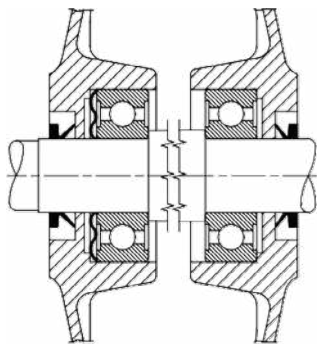
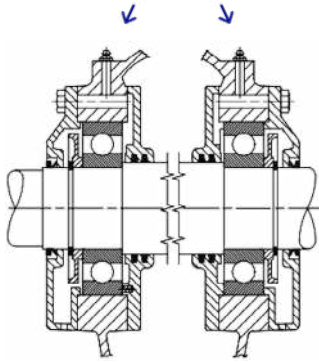

Figure 1
Figure 4
GAMAK electric motors come standard with a single row deep groove ball bearing design. The radial and axial forces that the standard design bearings in the bearing arrangement shown in Figures 1, 2, 3, 4, 5, 6 on the following page can withstand are given in the charts on the following page. For engines of size 132 and above, if the radial force applied to the motor shaft end exceeds the values given on page 22, a cylindrical roller bearing design with a higher radial force carrying capacity should be selected (Figure 5, Page 23).
- The axial clearance of deep groove ball bearing housings is limited by a pre-tensioned spring (bearing thrust spring - Fig. 1, 2, 3) or coil springs (Fig. 4). This minimizes bearing vibrations and noise and increases bearing life.
- 63...132 motors (Table 1) and 160...280 motors (Tables 2 and 3) use deep groove ball bearings closed on both sides (ZZ), lubricated for life by the manufacturer.
- 63...132 motors are manufactured in standard production with ZZ closed bearings with the bearing thrust spring in front as shown in Figure 1 and without locking according to Table 1.
- Motors of 315...450 frame size are manufactured in standard production as shown in figure 4, with locking of the front and rear oil splitter disks and lubricated bearings and locking from the front and rear according to Table 4. On type 315 and above, coil springs are used at the front instead of bearing compression springs. The bearings used are open type ball bearings with nipples for lubrication during operation.
- In line with special customer demand, motors in 132...280 frame sizes are produced as shown in Figure 4 with front and rear locking according to Table 4, with locking of the front and rear oil-deflecting discs and lubricated bearings as shown in Figure 4. The bearing thrust spring used is located at the front.